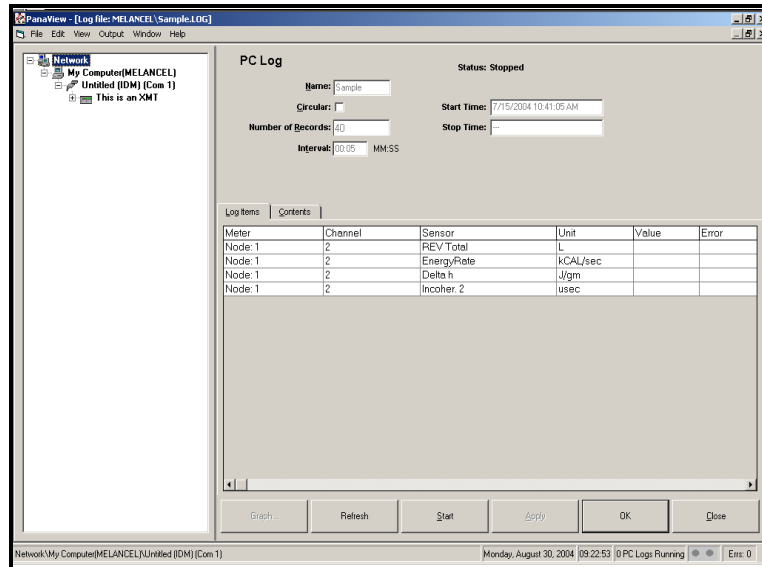

Figure 18: The PC Log Window
6. At the resulting *PC Log* window shown in Figure 18, place a check mark in the text box to create a *circular log*, or leave this box empty to create a *linear log*.
7. Enter a sampling *interval* in the text box shown in Figure 18.